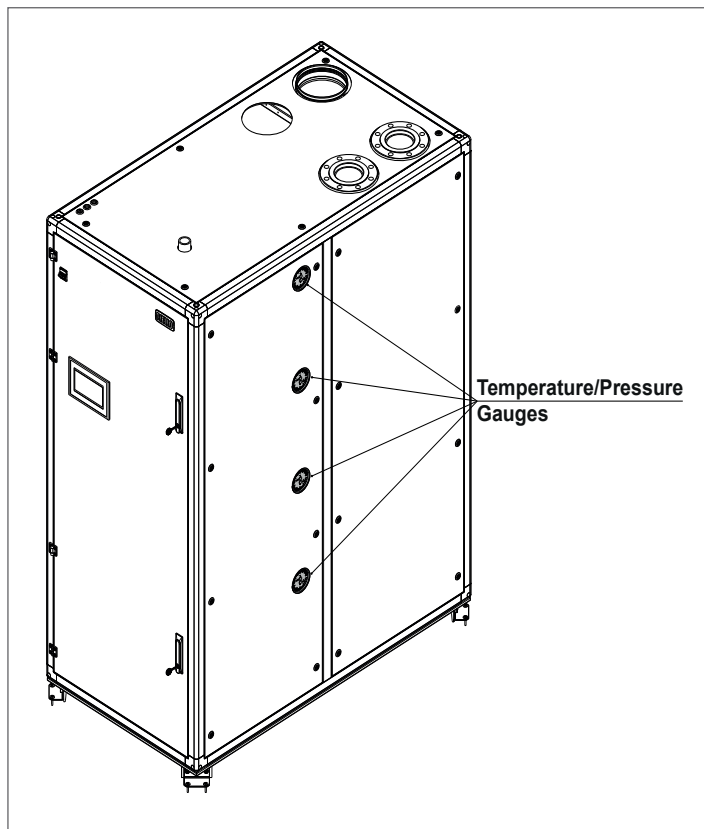

Fig. 52 Temperature/Pressure Gauge location
- Open the fill valve and proceed to fill the heating system and boiler until the pressure gauge (shown on Fig. 52), reads the pressure for which the heating system is sized. The heating system water pressure must be higher than 7.5 PSI.
If the pressure inside the heating circuit falls below the minimum pressure for the system (7.5 PSI), the appliance switches off and the 905PB inner display shows "Low water pressure" to indicate that it is necessary to restore the correct pressure. Open the filling valve and check the pressure on the temperature/pressure gauge of Fig. 52.